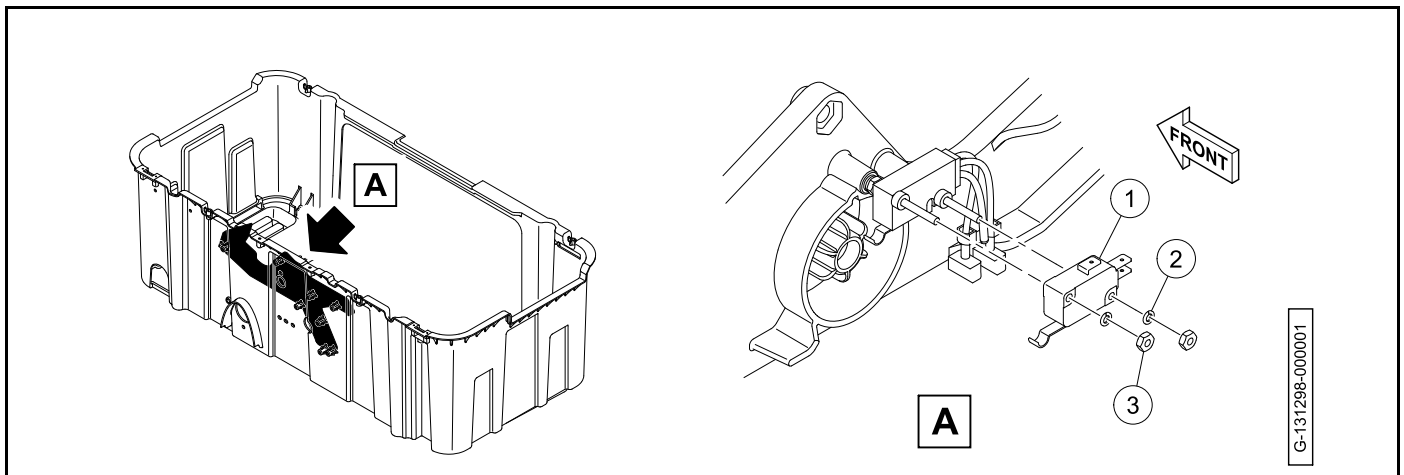

Figure 20-26 Neutral Lockout Limit Switch Removal
3. Disconnect the wires from the neutral lockout limit switch (1) (Figure 20-26, Page 20-25).